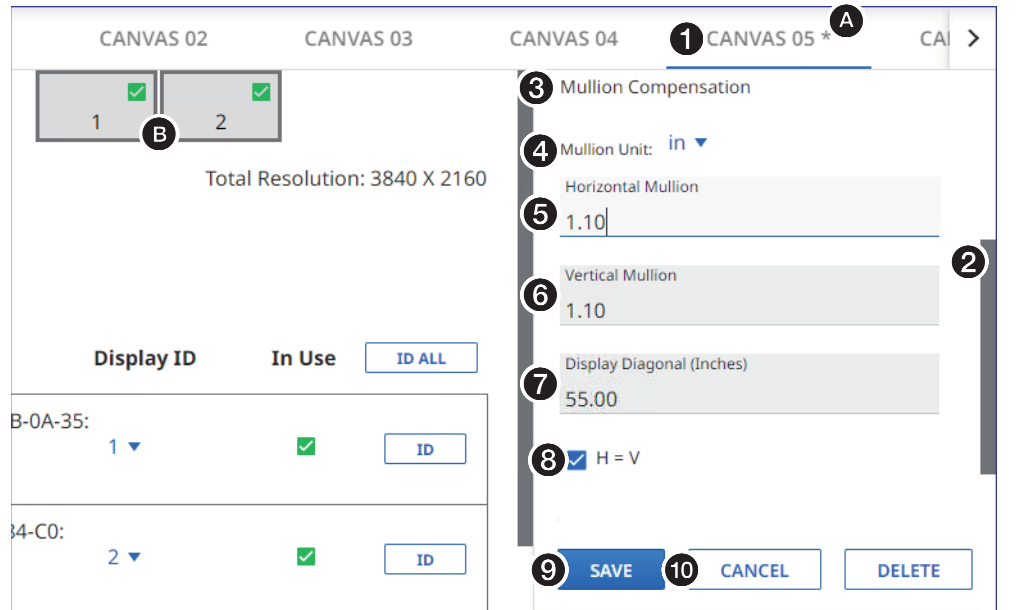

Figure 66. Configuring Mullions
2. If necessary, click **WINDOWALL > Canvas Configuration** (see ① > ② in the illustration at right). The **Canvas Configuration** page opens (see figure 66).
3. Click the appropriate **Canvas** tab to select the canvas to configure (see figure 66, ①).
4. If necessary, click and drag the right scroll bar (②) to reveal the **Mullion Compensation** adjustments (③).
NOTE: After any change, an asterisk (see figure 66, ①A) appears in the **Canvas** tab to indicate the unsaved changes.
- a. Click the **Mullion Unit** drop-down menu (④) to select among **in** (inches), **mm**, or **pixels** as the measurement unit used for the horizontal and vertical mullions (⑤ and ⑥).
- b. Click in the **Horizontal Mullion** field (⑤) and enter a numeric value of the width of the side bezels of the displays used on your NAV WindoWall.
- c. Click in the **Vertical Mullion** field (⑥) and enter a numeric value of the width of the top and bottom bezels of the displays used on your NAV WindoWall.
- If **H = V** (⑧) is checked, **Horizontal Mullion** and **Vertical Mullion** are locked to each other; a change in one changes the other to the same value.
- Changes made in the **Horizontal Mullion** and **Vertical Mullion** fields are graphically represented in the canvas view (②B).
- d. Click in the **Display Diagonal** field (see figure 66, 7 on page 66) and enter the diagonal dimension of the displays used in your NAV WindoWall.